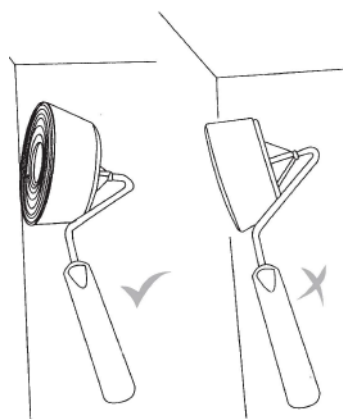

Fig.9
8. When painting, ensure that the Edger head is tilted at an angle from the adjacent wall. The sponge portion should be seated fully on the painted wall (Fig.9).